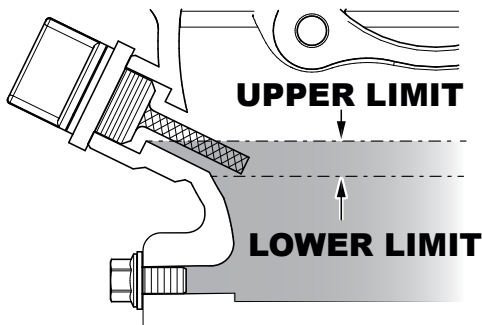

Figure 9. Oil Level
4. If the oil level is low (Figure 9), fill to the edge of the oil filler hole with the recommended oil type (Table 5). Maximum oil capacity is 9.5 ounces (280 CC).